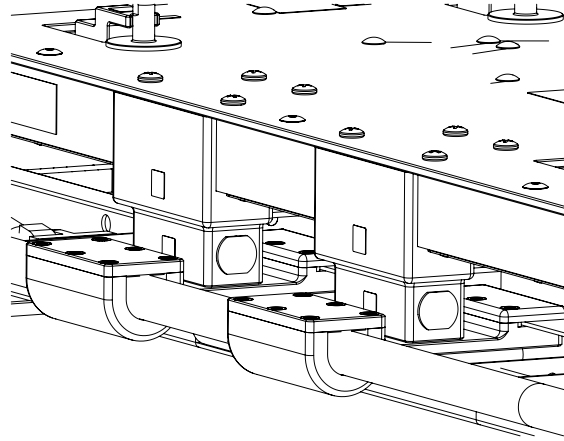

Figure 23: 2-part clamp blocks connected (2 of 4 XClamp - LP illustrated)
- Press on the mounting solution until all four (4), 2-part clamp blocks connect together (Figure 23). Ensure that the 2 parts of the clamp blocks are aligned and that there is no resistance felt when pressing on the platform to engage the locking mechanisms. If so, adjust the position of the partially tightened clamp blocks until they are perfectly aligned and that there is no more resistance felt when the 2-parts of the clamp blocks lock together.